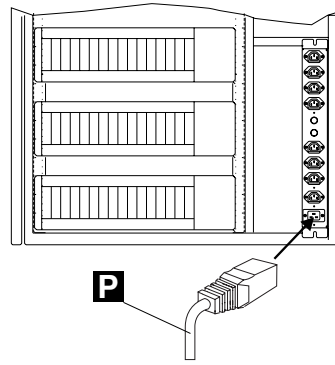

Figure 1-13. Power Cord for Power Strip
21. If it is not already plugged, connect the main power cord **P** coming from the ac outlet distribution box to the customer receptacle (refer to Figure 1-13 on page 1-17).